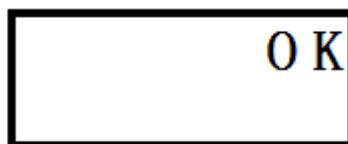

Figure17
5.1.5 Enter "Confirm" once, unit will be set to "bar" and the screen will display message, as shown in Figure 17;
screen will display message, as shown in Figure17. If the input data is outside the scope of program allows, the program will prompt an error, as shown in Figure 22. At this point, it is need to enter once again the "Confirm" button to clear the error message and back menu to browse State, the display appears as shown in Figure 18.
3.3 Enter "Confirm" once, the measuring range will be set to 0.1~20.1kPa automatically and the screen will display a message, as shown in Figure 17;
4.3 Enter "Confirm" once, the measuring range will be set to 0~20kPa automatically and the screen will display message, as shown in Figure17;